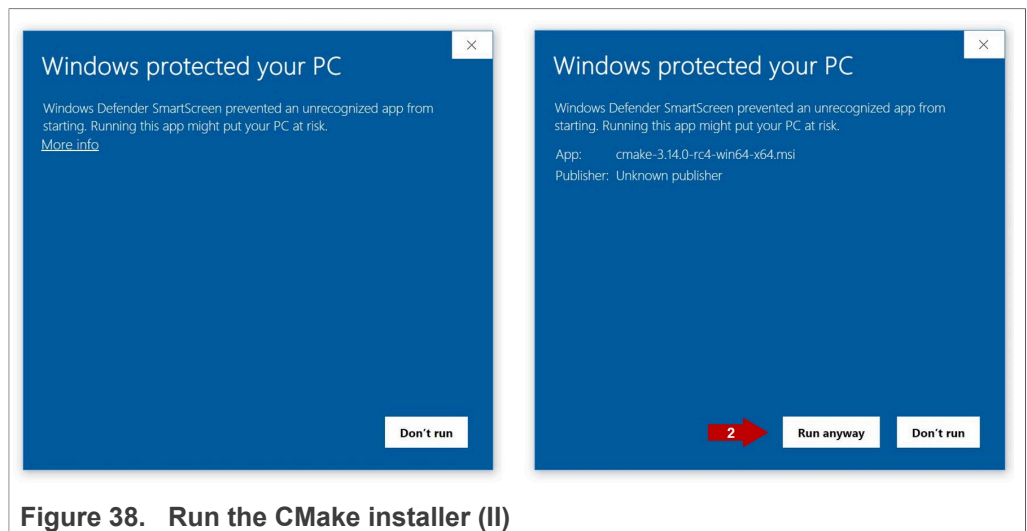

Figure 38. Run the CMake installer (II)
- If this is your case: Click (1) on **More info** and then (2) click on **Run anyway** as shown in Figure 38: